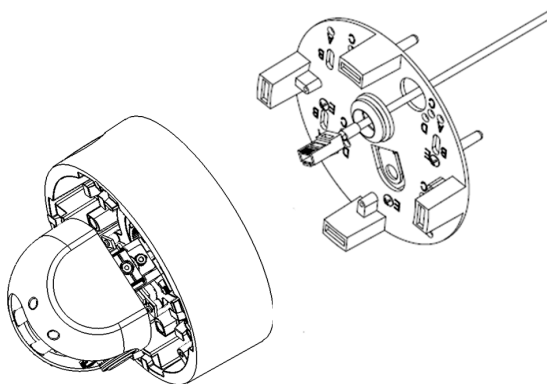

Figure 4
7. Align the hole on MegaDome® G3 RS camera with the hole on mounting plate, and install the grommet on camera housing as shown in Figure 4.